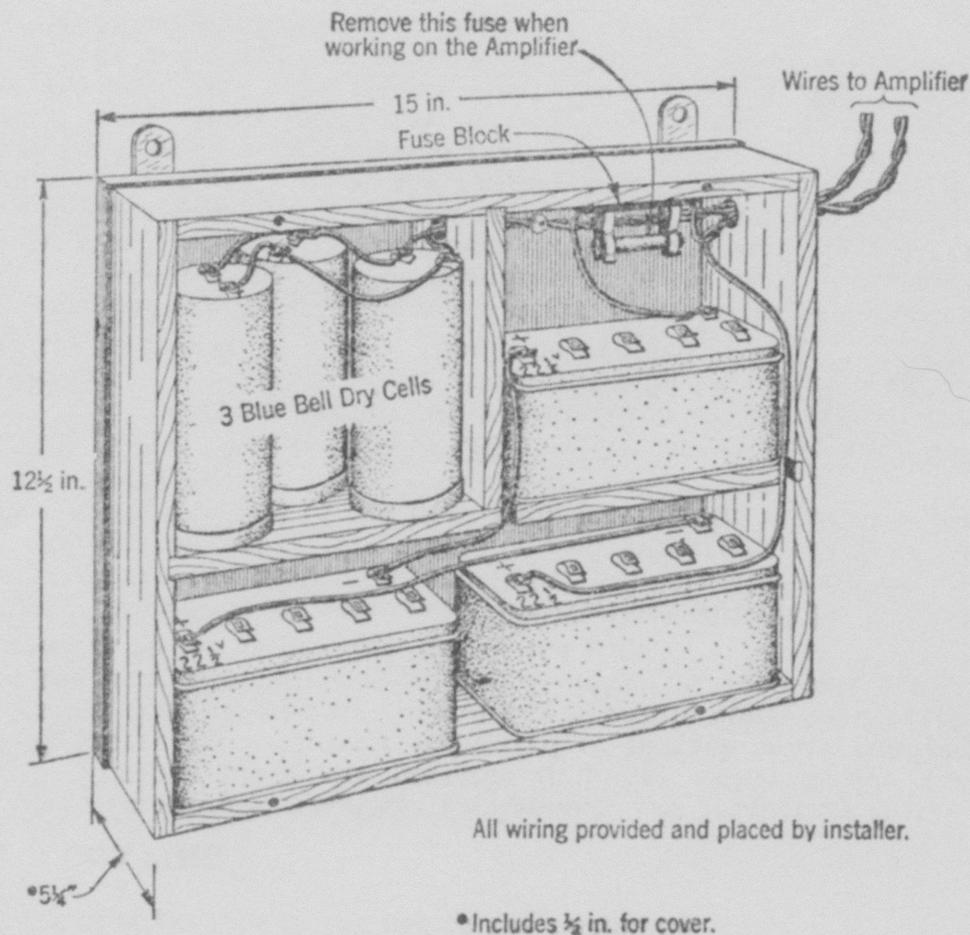

Fig. 1.
2.04 **Battery Box:** The 9A Battery Box should be mounted where it will not be unsightly or in the way. Locations near stoves or radiators or where the dry cells would be subject to damage from water are not satisfactory. When the installation is made on a desk, the battery box should be located in the knee well at the extreme rear and as high as possible. At such installations locate the battery box on the opposite side of the knee well from the amplifier and subscriber set. Locate dry cells in battery box as shown in Fig. 1. Date new dry cells when battery installation is made.